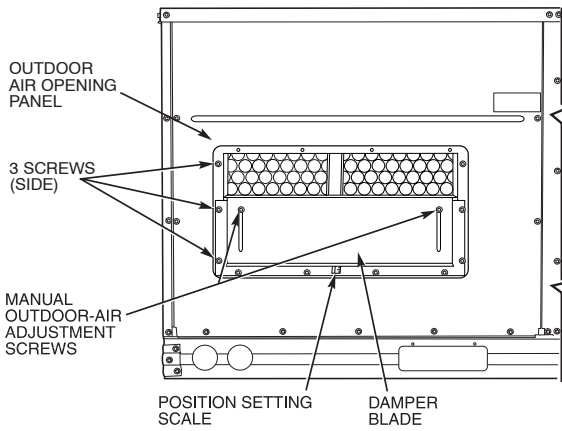

Fig. 17 – Damper Panel with Manual Outdoor-Air Damper Installed
2. Remove and save outdoor air opening panel and screws. (See Fig. 17.)
8. Adjust minimum position setting of the damper blade by adjusting the manual outdoor-air adjustment screws on the front of the damper blade. (See Fig. 17.) Slide blade vertically until it is in the appropriate position determined by Fig. 20. Tighten screws.